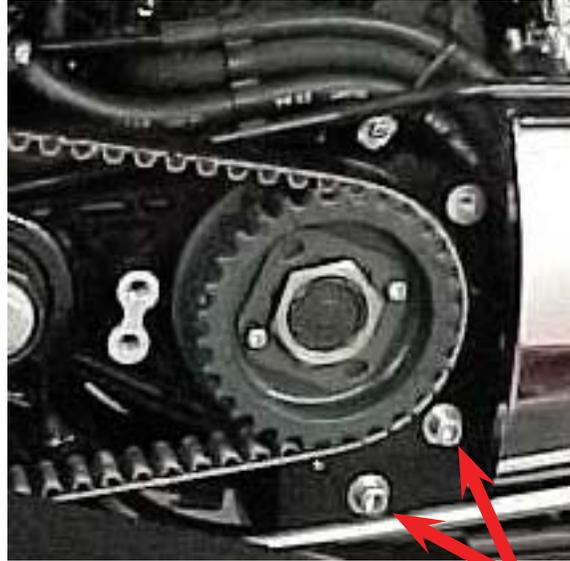

Figure 1
2. Install and tighten supplied mounting bracket #692-P with supplied 3/8" x 3/4" bolts, torque to 30-33 ft/lbs, refer to (*Figure 1*).